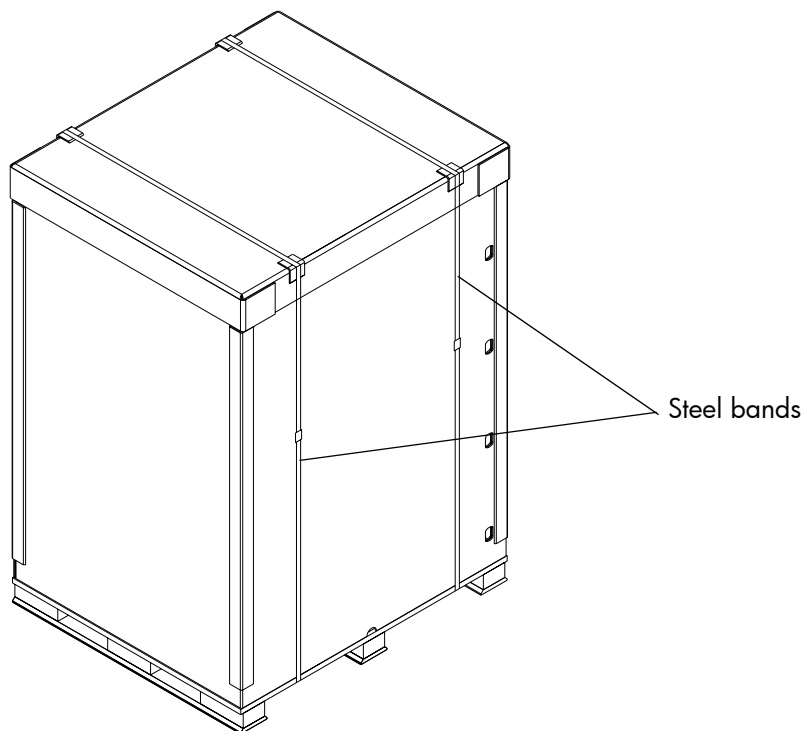

Figure 5: Removing the steel bands
3. Cut the two steel bands that secure the library and packing material to the pallet (see Figure 5).